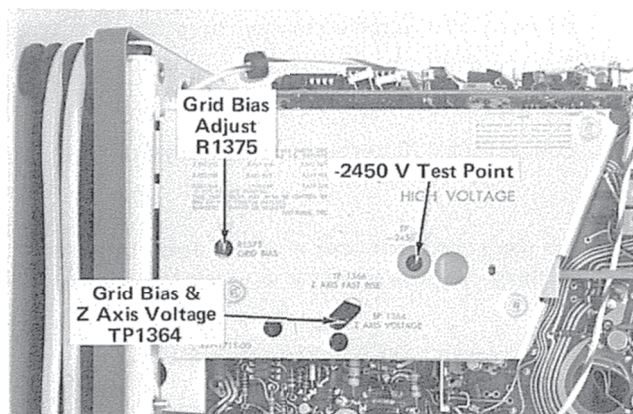

Fig. 5-3. Location of high-voltage and Grid Bias test points and adjustments.
a. Connect the DC Voltmeter between the -2450 -volt test point and ground (positive meter lead to ground). See Fig. 5-3.